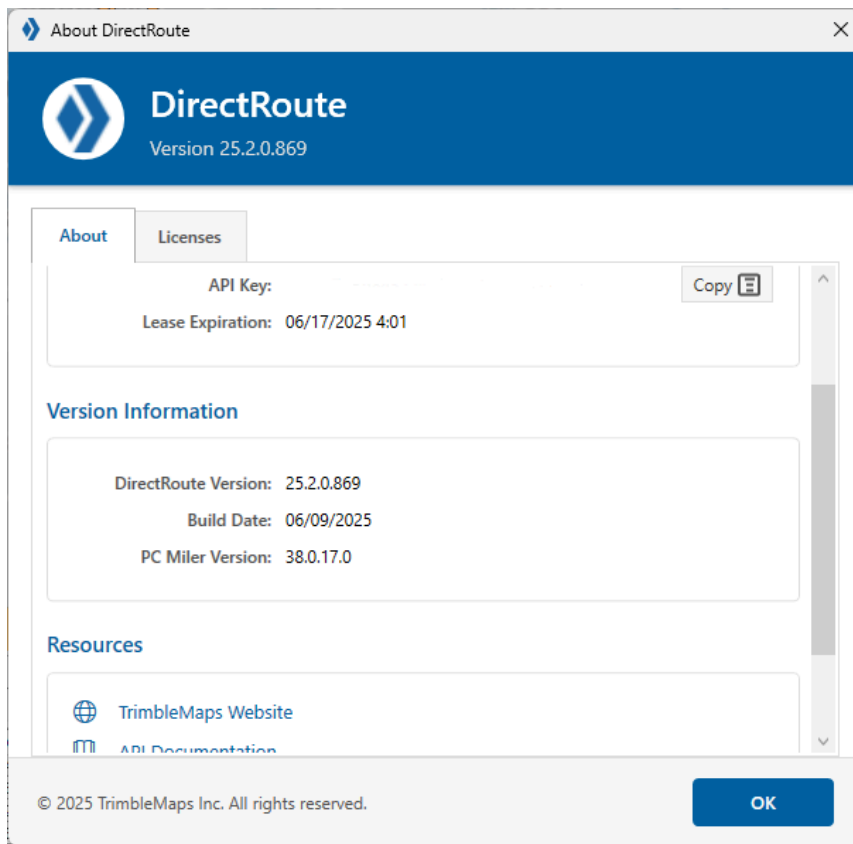

Figure 12–DirectRoute License & Version
- **API Key** (Previously known as Serial number) – Click on the Copy button for copy / paste purposes (See figure 12 below).